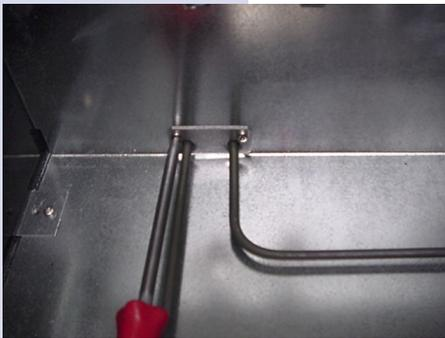

Figure 6
5. Remove the 2 screws at the rear. (Figure 6)